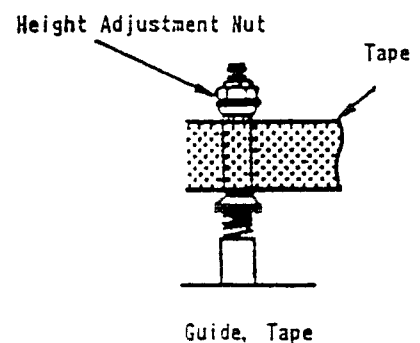

Fig. 2-6
8. After completion of the supply side guide roller adjustments, adjust tape guide so that tape runs as shown in Fig. 2-6, and adjust the take-up side guide roller by using the same procedures as for the supply side adjustments. In this case, adjust the guide roller height first.
9. Confirm that there is no curling or creasing at the impedance roller. (Both PLAY and REV modes.) If there is any curling or creasing at the impedance roller, adjust the same procedures of Fig. 2-6.